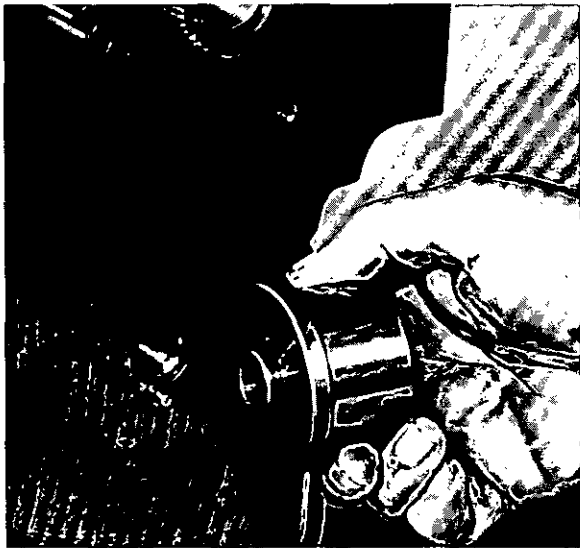

Fig. G.11
1. For purpose of correct location of timing case, it is advisable to fit and fully locate idler gear hub to cylinder block (Fig. G.11).